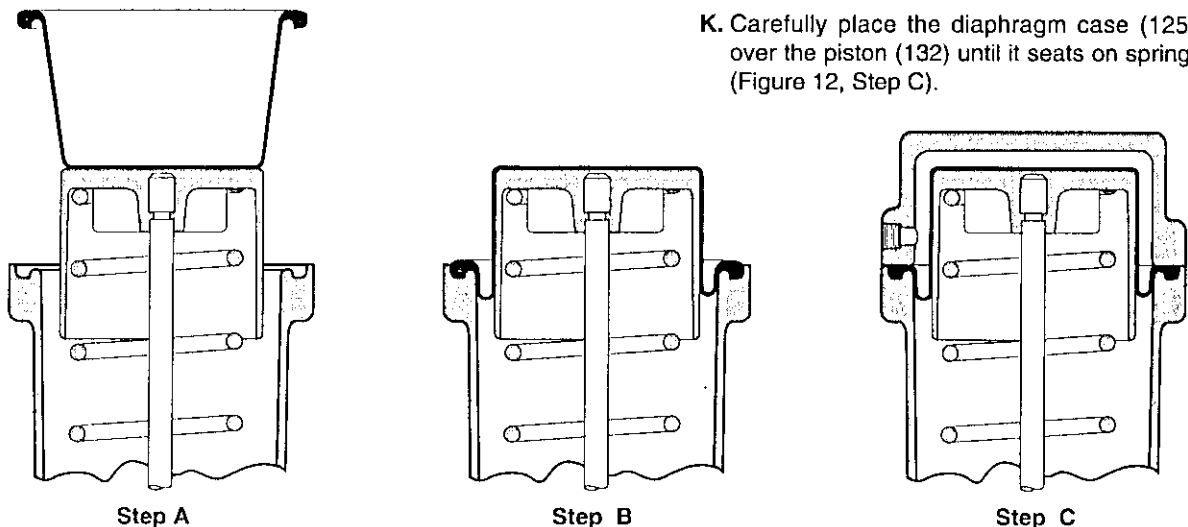

Figure 12: Diaphragm Replacement
14.2 Diaphragm Replacement (Figures 12, 22 & 23)
- I. Center and adhere diaphragm (133) to the top of the piston (132). (See Figure 12, Step A). Coat external face of the diaphragm with a small amount of talc.
- J. Carefully roll the diaphragm (133) inside the spring barrel (127) until the bead on the diaphragm is installed in the groove of spring barrel (Figure 12, Step B).
- K. Carefully place the diaphragm case (125) down over the piston (132) until it seats on spring barrel. (Figure 12, Step C).